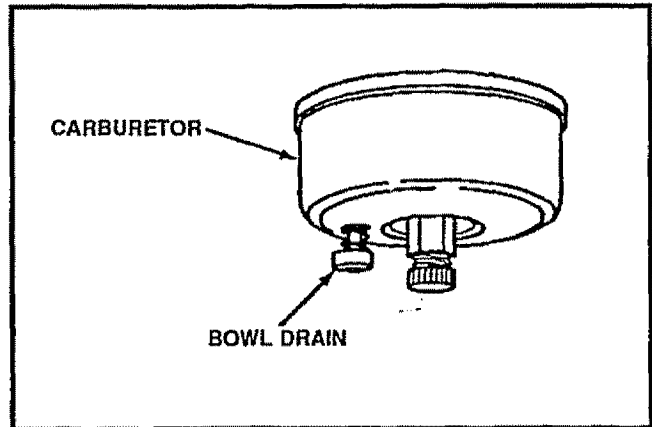

FIG. 39
- Drain the carburetor by pressing upward on the bowl drain (See Fig. 39), located below the carburetor cover.